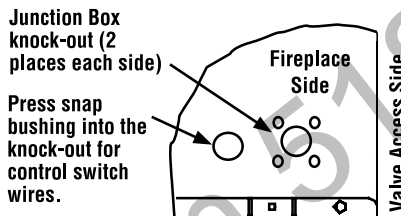

Figure 53
Note: The junction box can be installed in any of the 4 outside corners of the control compartment (outlet installed in front left corner is shown in *Figure 53*). If an optional blower is to be installed place the junction box to the left of the valve in the front corner.
5. After the receptacle/junction box wiring is complete, install the field-provided metal junction box cover plate (see *Figure 53*).